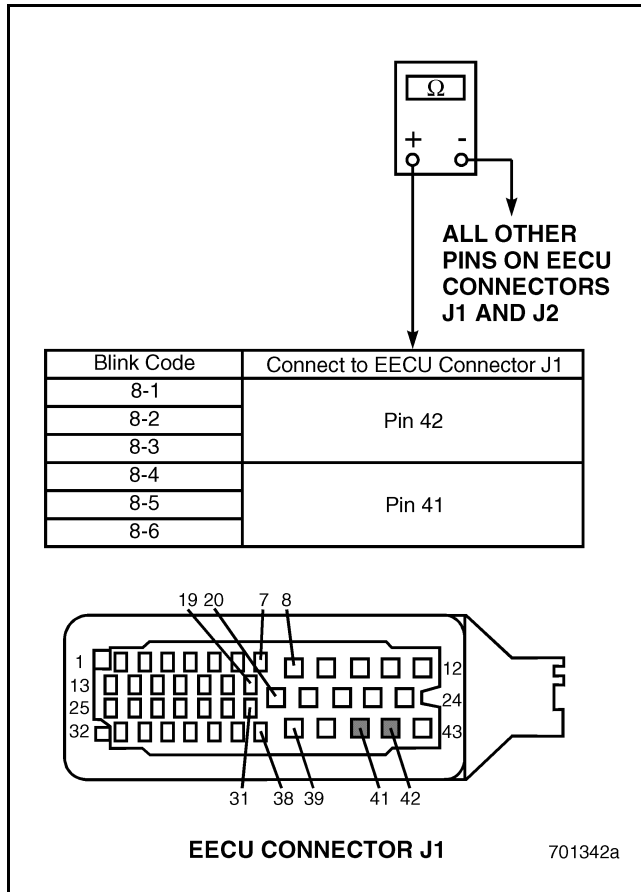

Figure 743
4. If blink code 8-1, 8-2 or 8-3 is set, check for continuity between EECU harness connector J1 pin 42 and all other pins on EECU connectors J1 and J2. If blink code 8-4, 8-5 or 8-6 is set, check continuity between EECU harness connector J1 pin 41 and all other pins on EECU connectors J1 and J2 (see Figure 743).